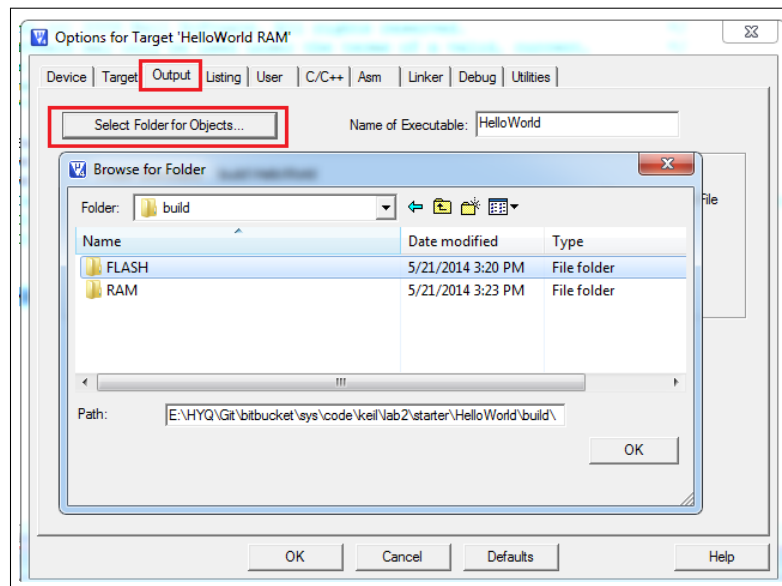

Figure 1.12: Keil IDE: Selecting Output Folder
- Click the Target Option button and select the Output tab. Click the “Select the Folders for Objects” button to bring up the Browse for Folder dialogue box (see Figure 1.12). You will chose the FLASH folder if you want to build the HelloWorld SIM target and RAM folder if you want to build the HelloWorld RAM target. Similarly, you could select the Listing tab to specify the location of the listing files.